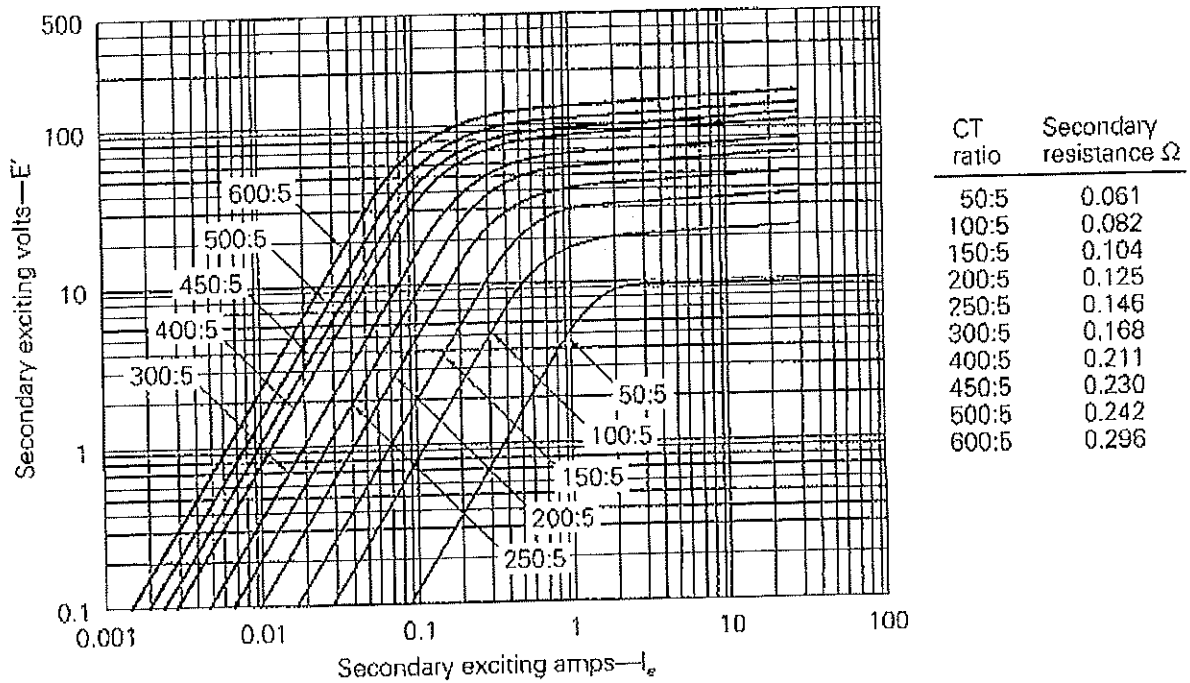

Fig. Q1(c)
c) Fig. Q1(c) shows excitation curves for a multi-ratio bushing CT with a C100 ANSI accuracy classification.